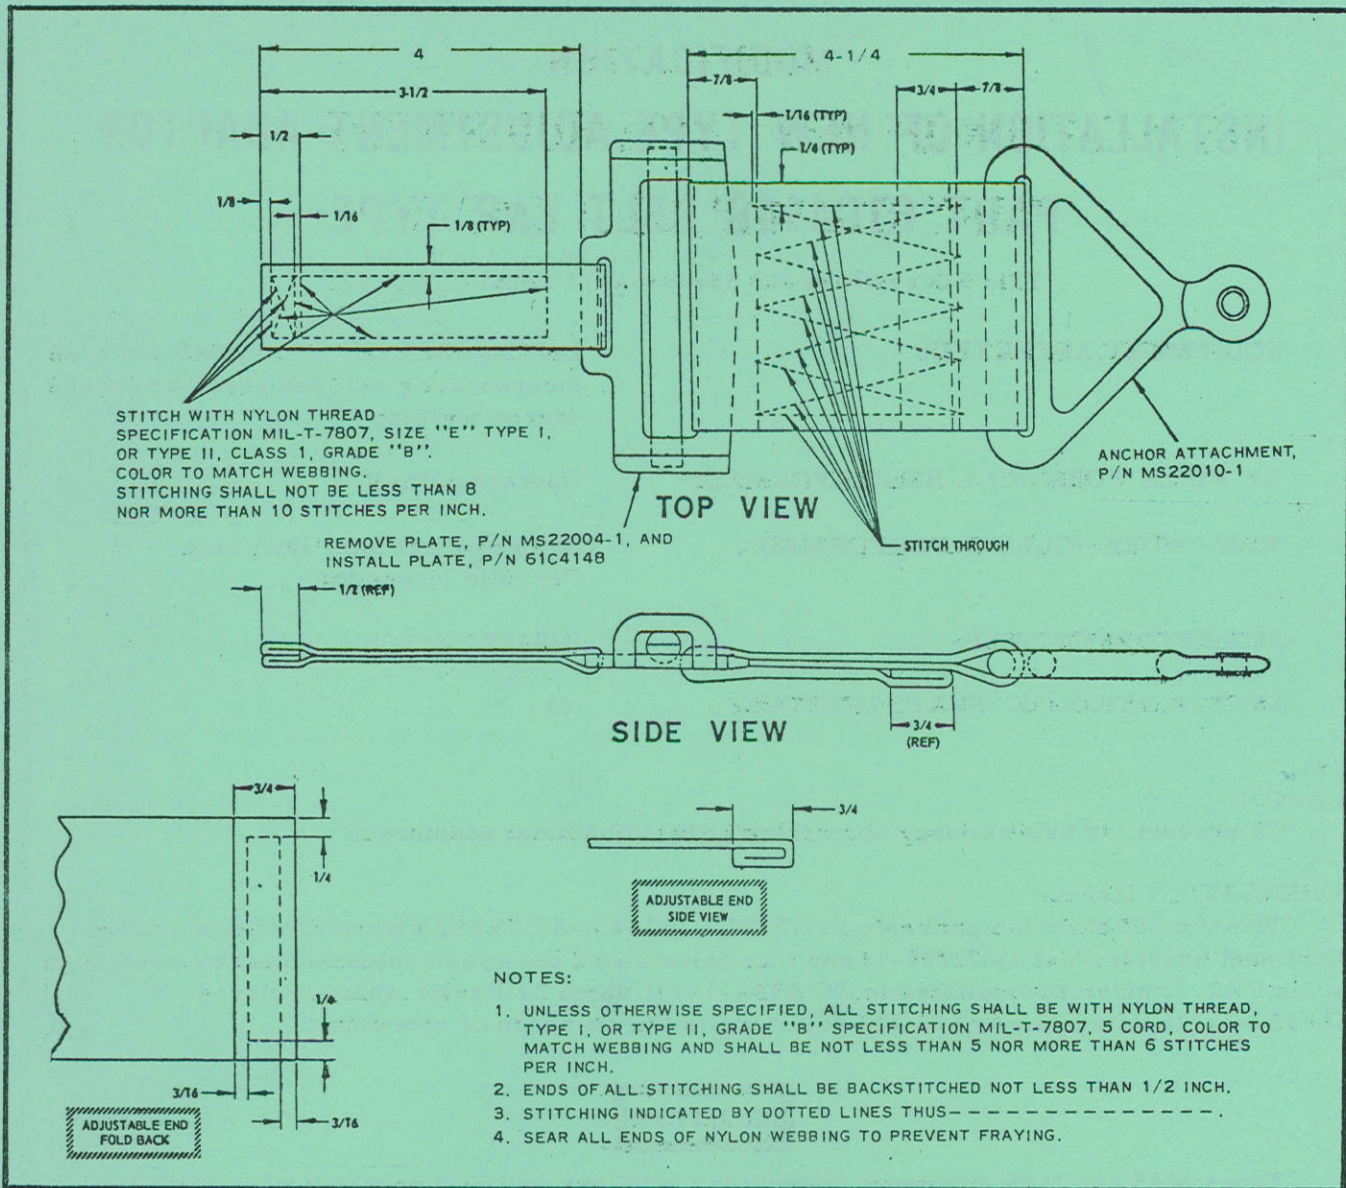

Figure 1
- (1) Disconnect and immediately cap the initiator hose and elbow on MA5 or MA6 lap belt buckle.
- (c) Slide the lap belt center piece adjustment end out of adjuster plate Part MS22004-1, refer Figure 1.
- (1) It may be necessary on some lap belts to cut and remove the stitching from the webbing adjustment end to allow the webbing end to slide through the adjuster plate.
- (1) Slide one end of the adjuster release tab through adjuster release tab slot in new adjuster plate Part 61C4148.
- (2) Join the two ends of the adjuster release tab, fold in 1/2" of the adjuster release tab end and stitch through. See Figure 1 for fold-in and stitch-through instructions.
- (3) Slide the 3/4" folded-in webbing end of the seat anchor attachment webbing through the adjuster plate Part 61C4148. See Figure 1 for installation reference.
- (4) Join the 3/4" folded-in webbing end with the other two webbing folds of the seat anchor attachment and stitch through. See Figure 1 for stitching instructions.
- (5) Re-install adjustment end through adjuster plate Part 61C4148, in reverse of procedure outlined for removal.
- (6) If adjustment end stitching was cut and removed in accordance with instructions contained in paragraph 2(c)(1), fold in the webbing end approximately 3/4" and stitch through. See Figure 1 for fold-in and stitching instructions.